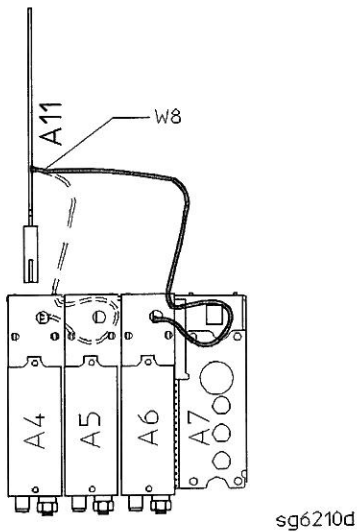

Figure 1-20. Connections for Substituting the R Sampler (A4)
- a. Move cable W8 to the B sampler (A6), as shown in Figure 1-20.